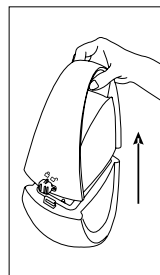

Fig. 4-1
1. Turn the water tank lock lever to position «  », holding the unit vertically (Fig. 4-1).